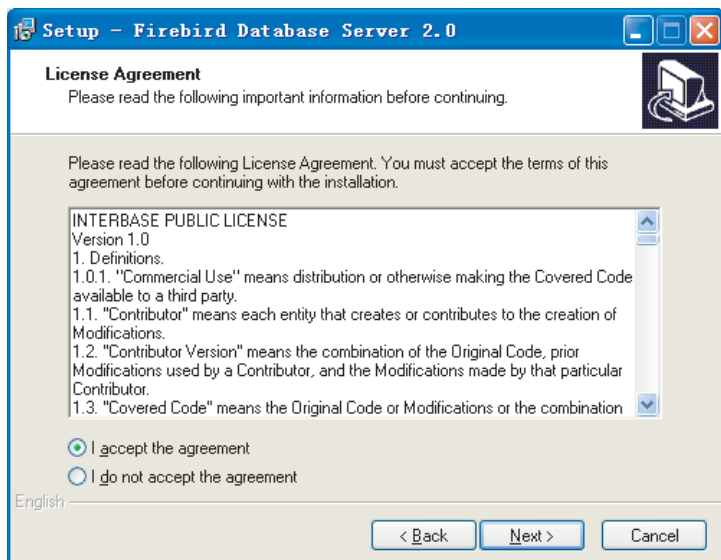

Fig.2-3
3) Installation window as Fig. 2-3, select "I accept the agreement", click "Next" to continue: